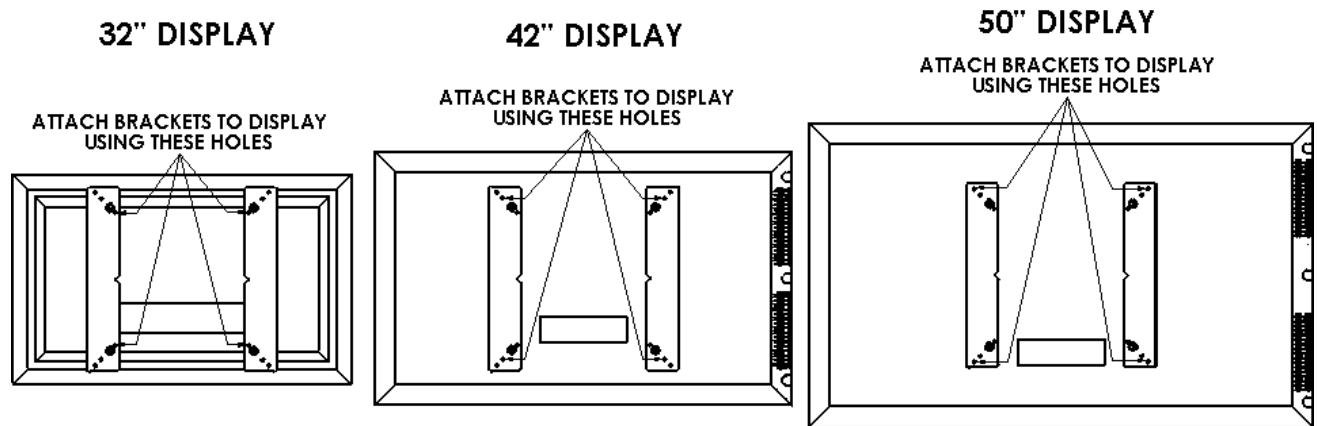

Figure 8. Attach Brackets to Display
4. Attach mounting bracket to the display (see Figure 8), as follows: